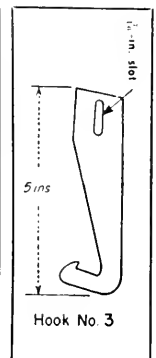
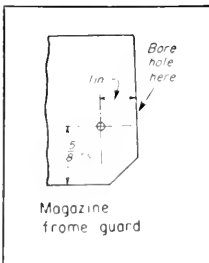

Fig. 3
Fig. 4
2. Make another hook from a 5-in. length of 1½-in. cold-rolled flat-steel stock ¼ in. thick. Slot one end, and cut the other end to form a hook as shown in Fig. 3. Drill a hole with a No. 29 drill in the magazine-frame guard as shown in Fig. 4, and tap the hole with a No. 8-32 tap.